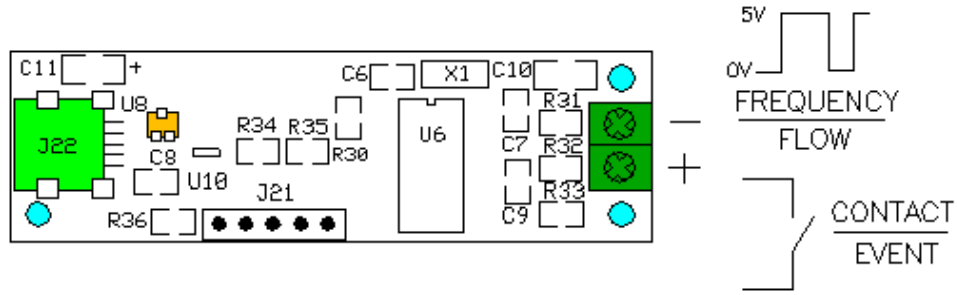
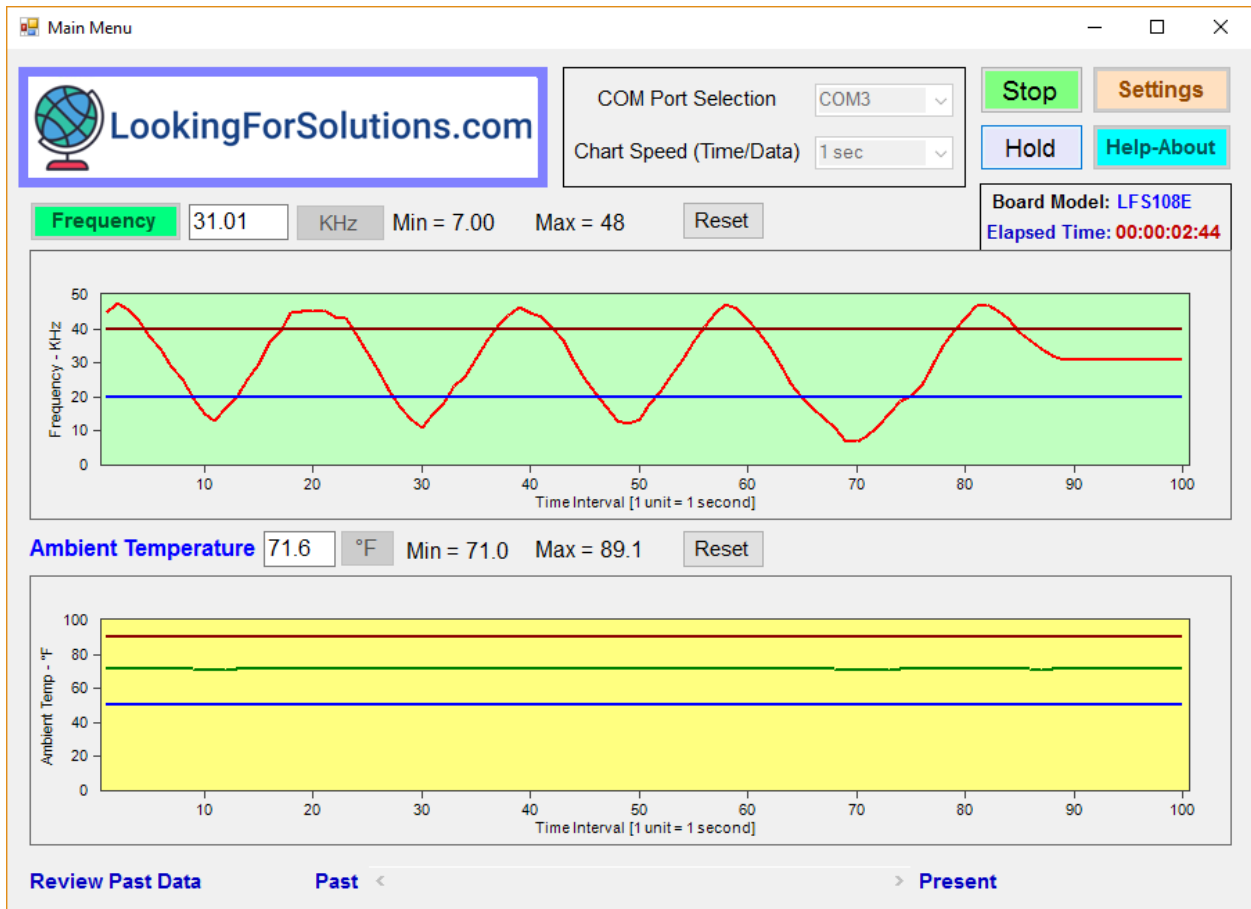

Figure 1 – Wiring connection to the board
Figure 2 – Main Screen, Frequency Input – Real Time
- Connect the board to your Frequency/Flow input. See Figure 1.
Figure 1 shows how to connect frequency / flow input (5V Square Wave), or switch contact to the board terminal block. **Please check the polarity and the voltage level of your signal before connecting to the board terminal block. Applying a voltage larger than 5V could damage the board.** Figure 2 shows the main screen for frequency input. You can set the COM port and the Chart Speed (Time interval per data point) from the drop down menus. Click the Start button. The program asks for the name of data file to be saved. You can name your data file (Filename.txt or Filename.csv) and the location where you want to save it. Click the Save (or Cancel) button. The program will start reading and displaying the frequency or Contact input and ambient temperature from the board and provides a line graph of the two parameters. It also shows the model number of the board (LFS108E) and the running Elapsed time.